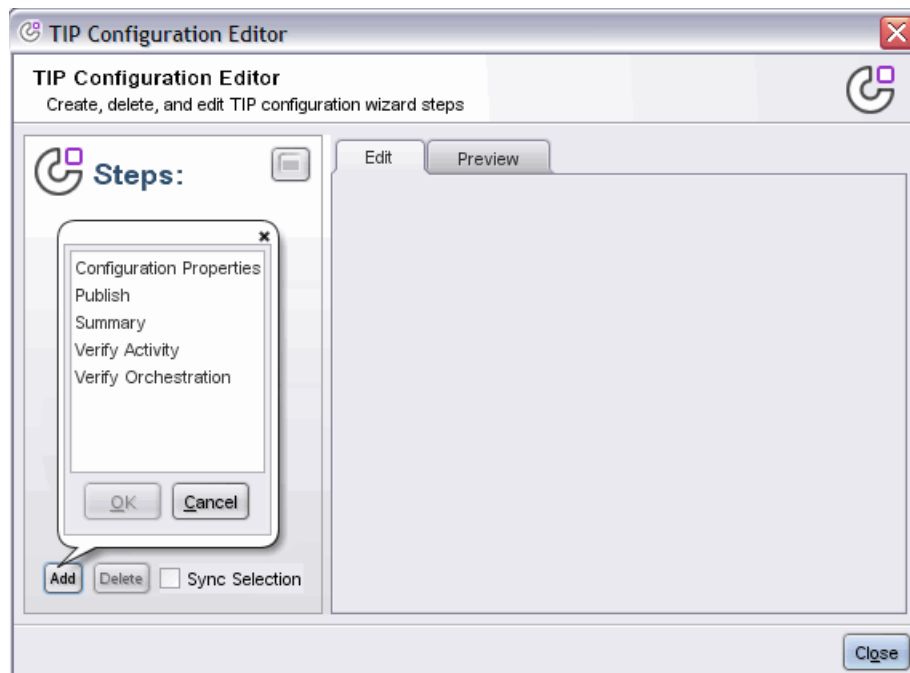

Figure 7-6 TIP Configuration Editor
2. Select **Tools** → **Create Configuration Editor** or **Edit Configuration Editor**. When the editor opens, Figure 7-6, the Steps panel (on the left) and the Workspace panel display. The sections that follow describe these panels.